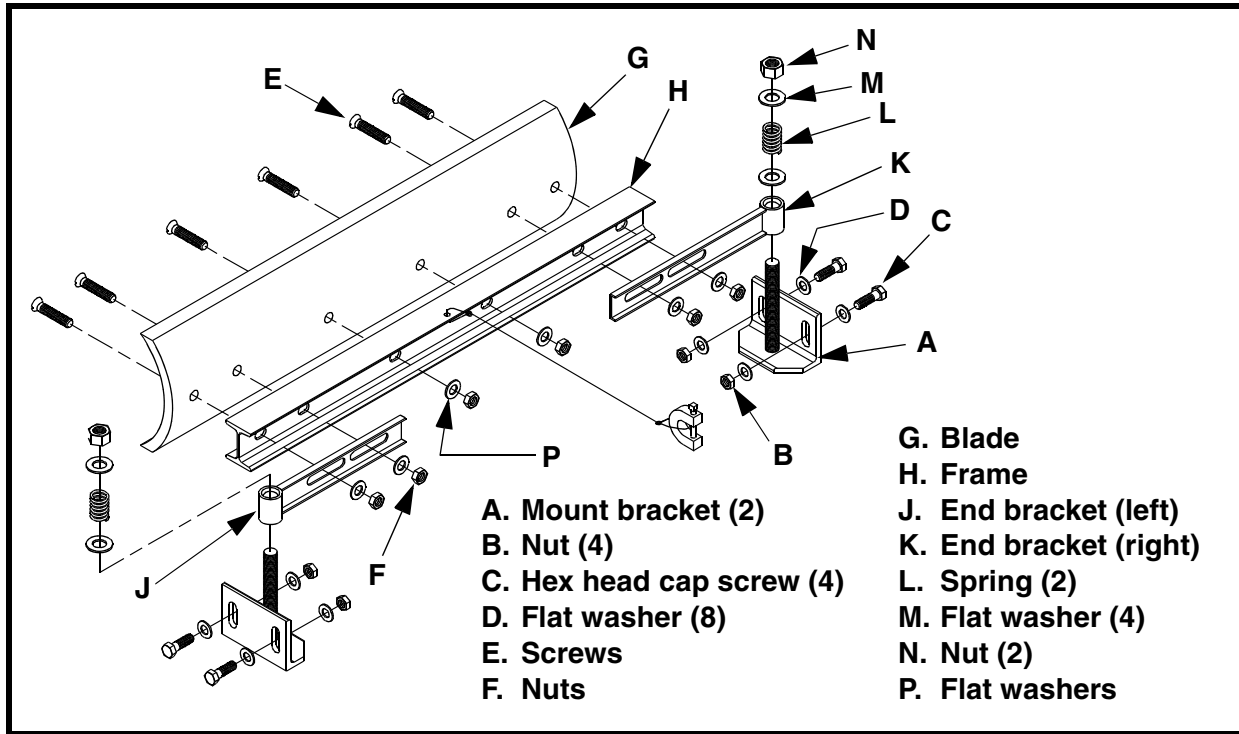

Figure 3. Installing Martin® Durt Dozer™ Plow Assembly
- b. Center mount bracket (A, Figure 3) on mark. Using bracket as template, mark location of mounting holes on stringer with bottom of bracket 1-1/2 in. (38 mm) above belt surface.
1. Loosen four screws (E, Figure 3) and nuts (F) attaching blade (G) and frame (H) to end brackets (J and K).
2. Slide end brackets over threaded rods on mount brackets (A), with shorter end bracket (J) on left side mount bracket and longer end bracket (K) on right side mount bracket. Make sure concave side of blade is facing head pulley.
3. Slide frame on end brackets to center blade on belt. When centered, tighten screws (E) and jam nuts (F) to secure blade in place. Make sure blade is resting on belt surface.
1. Drop two springs (L, Figure 3) onto threaded rods on mount brackets (A). Make sure springs rest on bottom weldment of mount brackets.
2. Install four flat washers (M) and two nuts (N) onto threaded rods. Make sure a flat washer rests on top of each spring.
- a. Remove screws (E, Figure 3), jam nuts (F), and flat washers (P) attaching blade and frame (H) to end brackets (J and K).